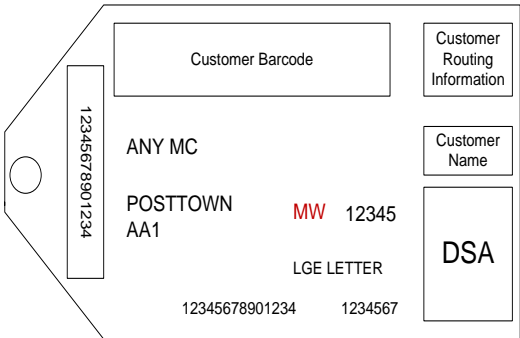

Figure 28: Mixed Weight bag label
- 3.1 You must include an additional identifier (**MW**) on the Container CFL (see Figure 28), so that the Inward Mail Centre can identify the Posting is Mixed Weight.